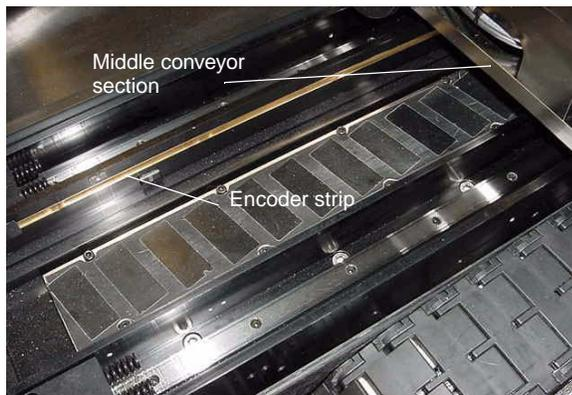

Figure 70. Y-axis Encoder Strip
2. Locate the encoder strips on the X- and Y-axes (Figure 70).